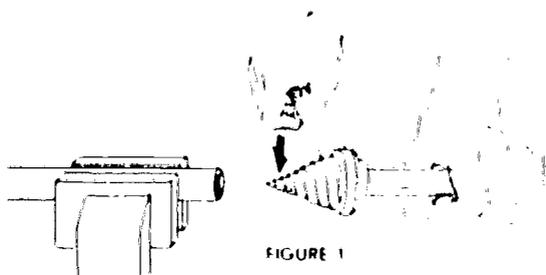

FIGURE 1
B. Insert reamer tip in conduit (Figure 1)